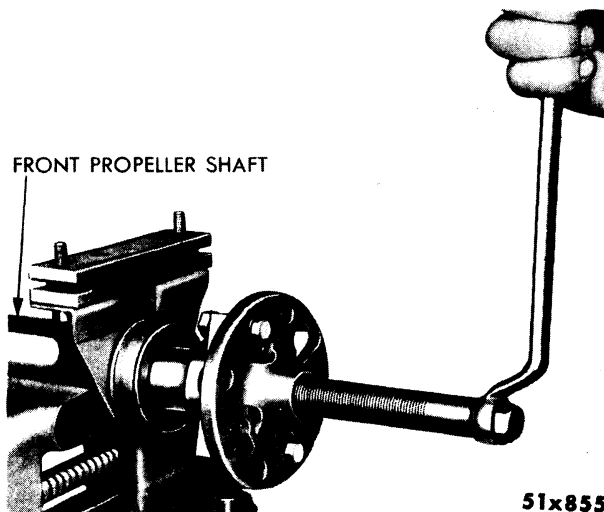

Fig. 15—Removing Companion Flange
- (2) Index and mark flange and shaft (to retain original balance). Remove flange and slinger from shaft with Tool C-452, as shown in Figure 15.